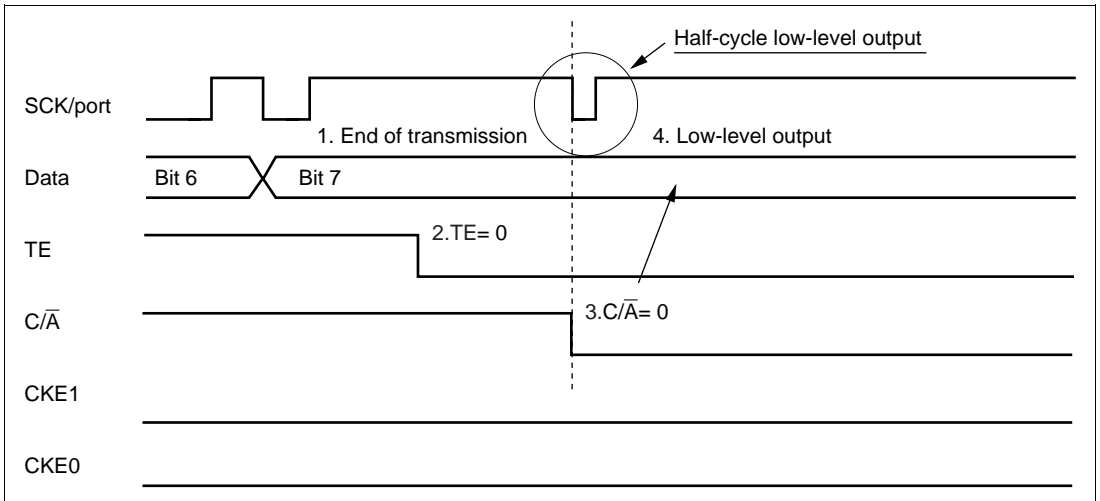

Figure 12-32 Operation when Switching from SCK Pin Function to Port Pin Function
4. Occurrence of low-level output (see figure 12-32)